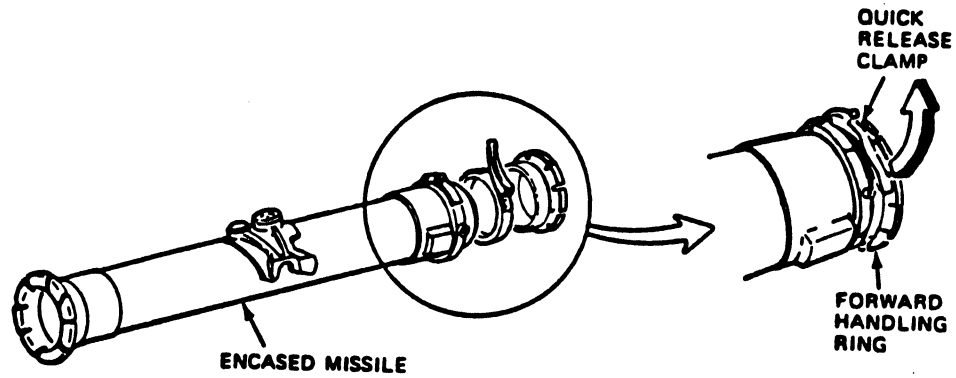

Fig 4-18. Quick release clamp and forward handling ring.
Step 5. Pull up on the quick release clamp at the forward handling ring and remove it from the encased missile (fig 4-18).